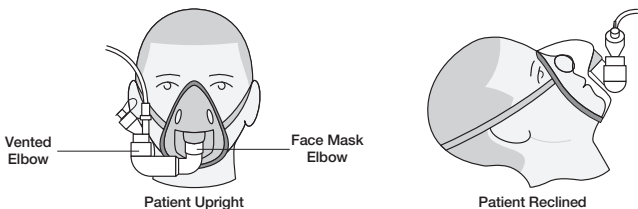
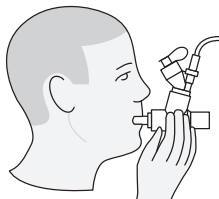
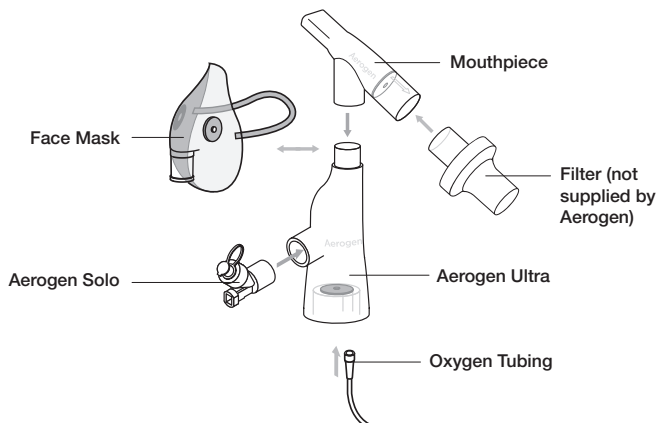

Figure 12. Connecting to a mask
Figure 13. Connecting to a mouthpiece
Figure 14. Assembly of Aerogen Ultra
Note: For use with other accessories, refer to Figure 12, Figure 13 and Figure 14.
2. Rotate the vented elbow to suit the position of the patient (Figure 12).
When using a mouthpiece, connect the nebulizer to the T-piece and then connect the T-piece to the mouthpiece by pushing the parts firmly together as shown in Figure 13.
Warning: To ensure correct nebulization, maintain the nebulizer in a vertical orientation (Figure 12 & Figure 13).
A. Insert the Aerogen Solo nebulizer firmly into the Aerogen Ultra in orientation shown in Figure 14.